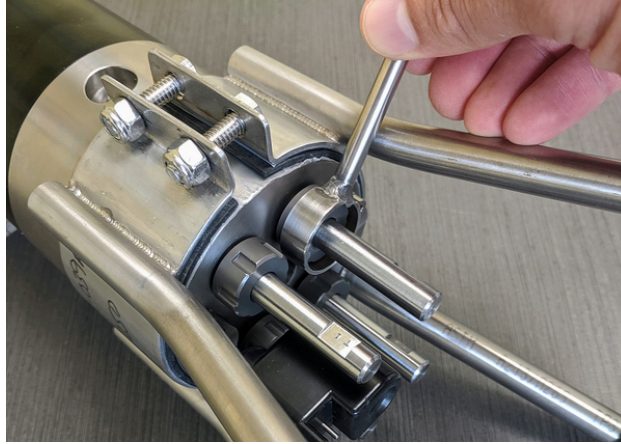

Figure 11: Loosening the probe holder using the custom probe wrench.
1. Loosen the probe holder cap using the probe wrench (Figure 11). Usually a half to three-quarter turn (counter-clockwise) is enough. You do not need to fully remove the cap.
2. Tighten the probe holder caps using your fingers until they can no longer be easily tightened by hand. Then, use the probe wrench to tighten the caps an additional **1/8 or 1/4 turn** (Figure 11). At the proper tightness, it should be difficult to rotate the probes by hand.